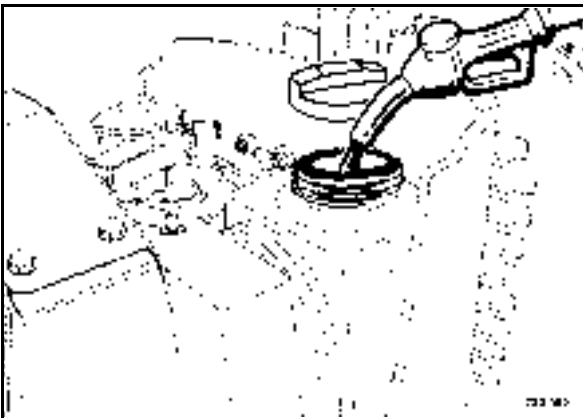

Fig. 94
- Clean the area around the filler opening, unscrew the cover, check the filling level and fill in fuel as necessary (Fig. 94) .